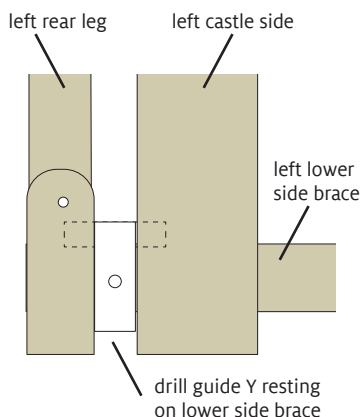

FIGURE 10: DRILL GUIDE Y
5. Place drill guide Y on the lower left side brace as shown in Figure 10. Position the drill guide so that it butts up against the rear leg.